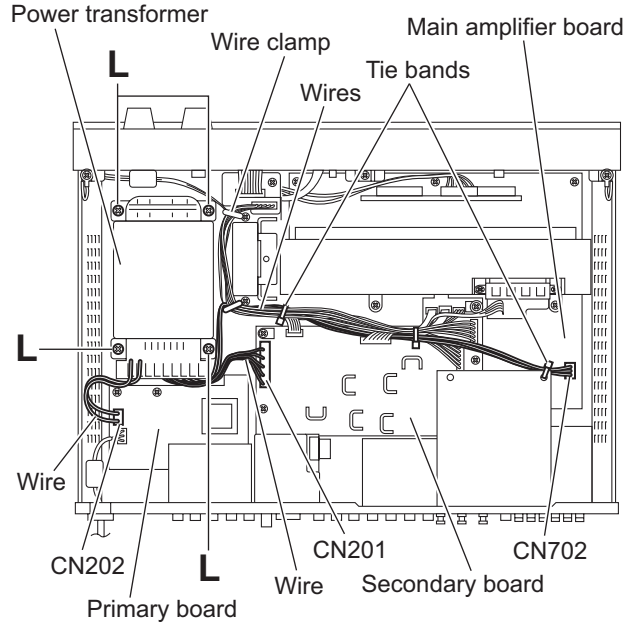

Fig.12
3.9 Removing the power transformer (See Fig.12)